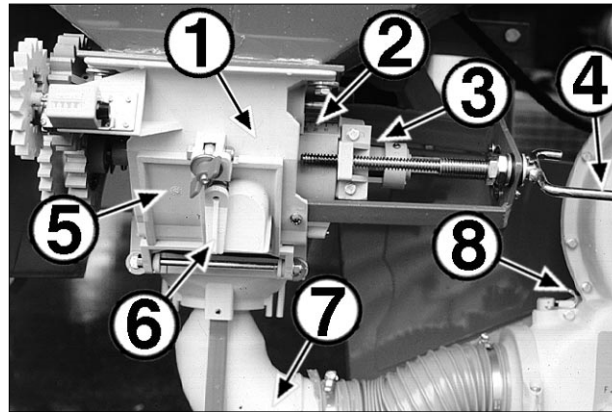

Fig. 4-7 Metering device and fan on DA; DA-S; DE-S; DL; DT up to 6.66 m; DF1
- Set the red change-over switch (3; fig. 4-7) to position N.
- with **vertical** venturi cones (Fig. 4-7): Remove the manifold (7) by unscrewing the wing nut.